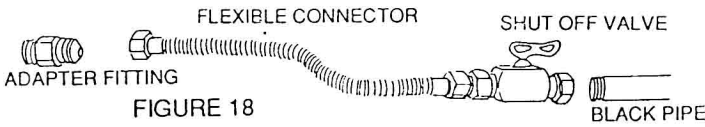

FIGURE 18
**DO NOT KINK FLEX CONNECTOR (FIG. 18).**